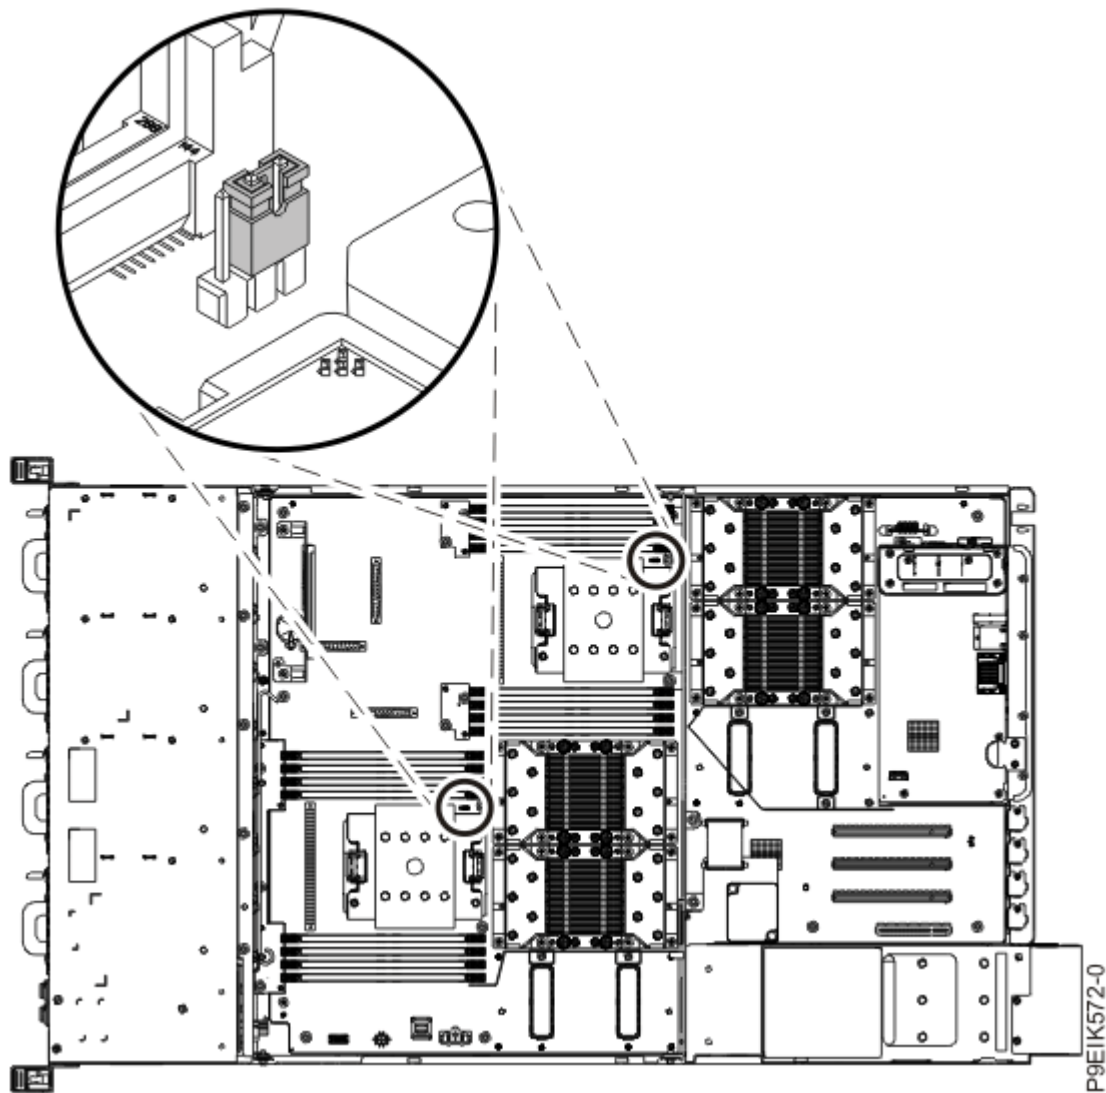

Figure 41. System processor jumper positions
5. Install the system processor jumpers on the system backplane as shown in Figure 41 on page 55.